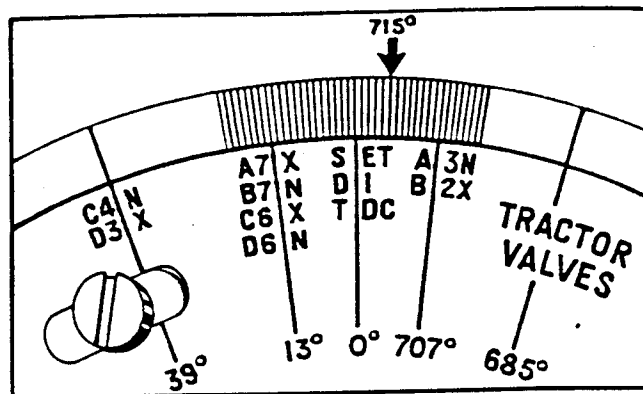

Figure 45. 715 Degree Mark on Plate
(b) Remove the ground connection from No. 1 magneto and install PWA-3827 Adapter. Clip the red wires of PWA-2417 Indicator to the adapter wires and ground the black wire to the magneto housing. Turn the indicator switch on. Rotate the engine opposite its normal direction of rotation about a quarter turn, then bring it up in the normal direction until the pointer is on the 715 degree mark on the timing plate (see figure 45). The indicator lights should just flash on when the pointer reaches this position. If they do not, No. 1 magneto is not correctly timed to the engine and it is recommended that the timing of all magnetos to the engine be checked and adjusted, if necessary. (Refer to paragraph 3 c (7).)